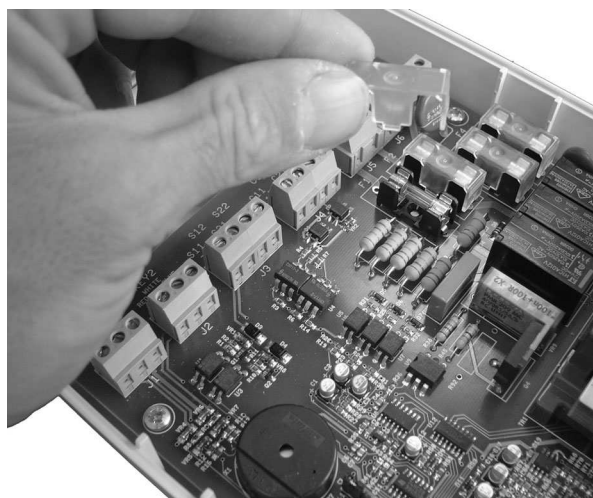

Fig. 27
4. Remove the plastic protector (Fig. 27)